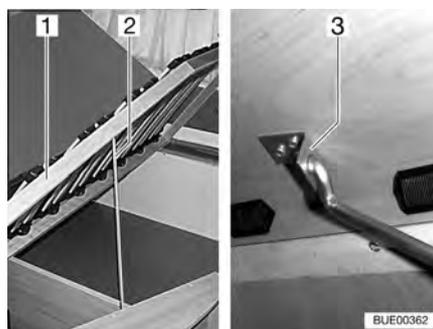

Fig. 73 Fixed bed
- Lift the slatted frame (Fig. 73,1), release the rail (Fig. 73,2) from its bracing and insert into the cavity in the holder (Fig. 73,3).
- Lift the slatted frame (Fig. 73,1), release the rail (Fig. 73,2) from the holder (Fig. 73,3) and clamp into the bracing.